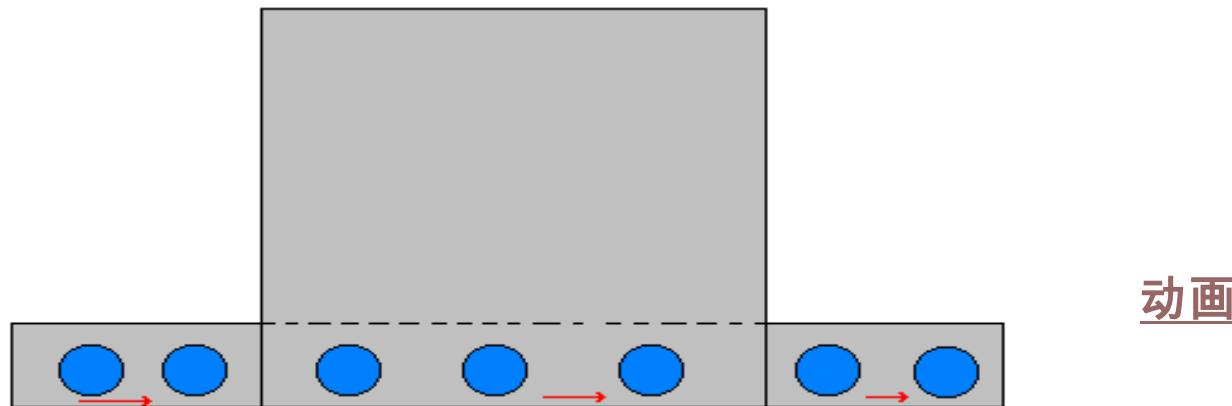

Figure 20.3 Straight-line filling
- c) Some multiple head machines have the capability of following the containers along the line and filling them in a continuous motion without stopping the filling line (Figure 20.3).